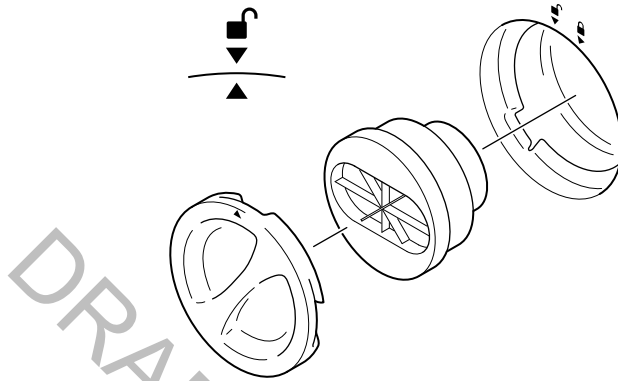

Figure 41 - Remove and Replace the Filter
2. Turn the filter cover counterclockwise and align the arrow to unlock the filter cover. Remove the filter cover (Figure 41).